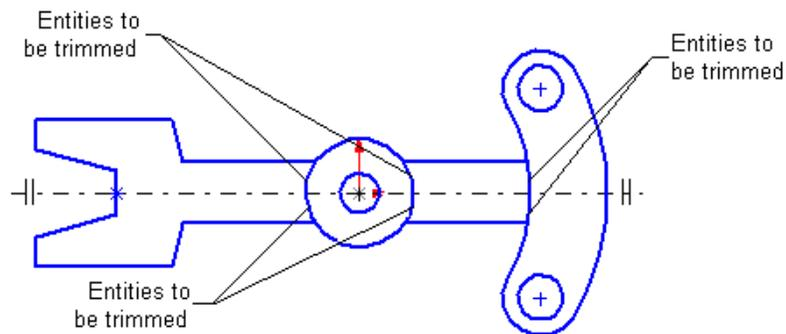

Figure 3-63 Entities to be trimmed
- e. Trim the arcs and circles and add the fillets, refer to Figure 3-63 through Figure 3-65.
2. Select the entities to be trimmed as shown in Figure 3-63. The entities are dynamically trimmed.